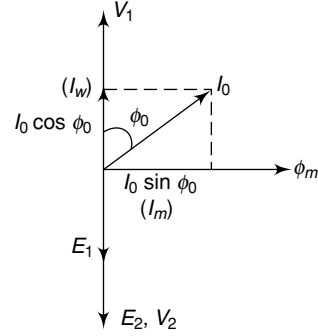

Fig. 3.5 Phasor diagram under no load condition ($N_2 > N_1$)
- The induced emfs in primary and secondary windings (E_1 and E_2) lag behind the main flux ϕ by an angle $\pi/2$, and E_1 and E_2 are in the same phase with each other [as shown in the phasor diagram (Fig. 3.5)].
Thus, from the phasor diagram of Fig. 3.5, we have